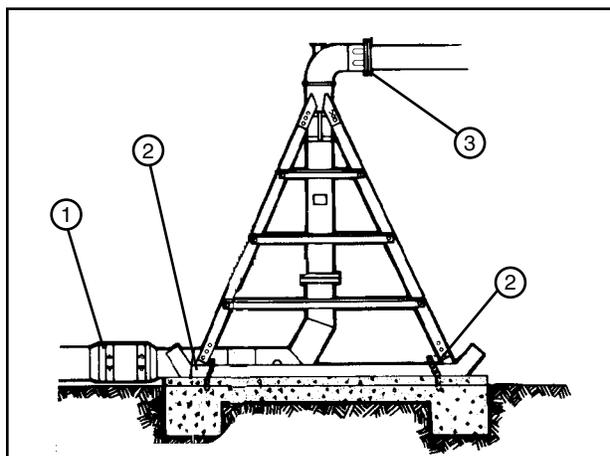

Figure 42-2 1. Water Supply Line 3. Pivot Flex
8. Disconnect the water supply line from lower riser. See Figure 42-2.
9. Remove anchor chains securing skid pivot to pivot pad. See Figure 42-2.